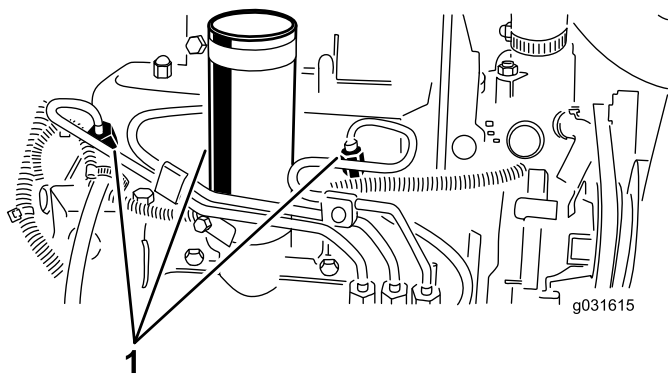

Figure 54
1. Loosen the pipe connection to the No. 1 nozzle and holder assembly (Figure 54).